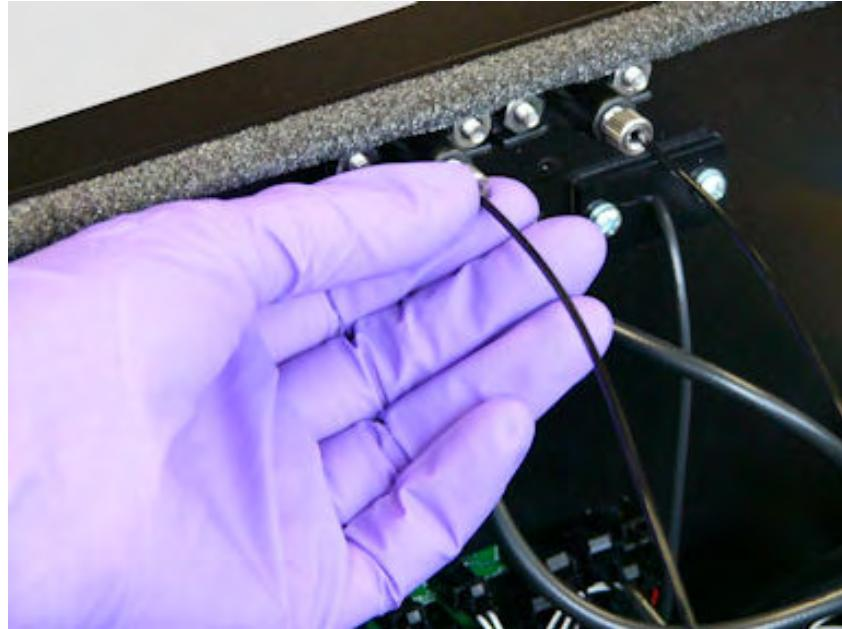

Figure 4: Disconnect the dispense tubes from the back wall of the reader
1. Locate the tubing ports on the reader's rear wall (**Figure 4**). Turn each tube's thumbscrew counterclockwise and gently pull the tube from the port.